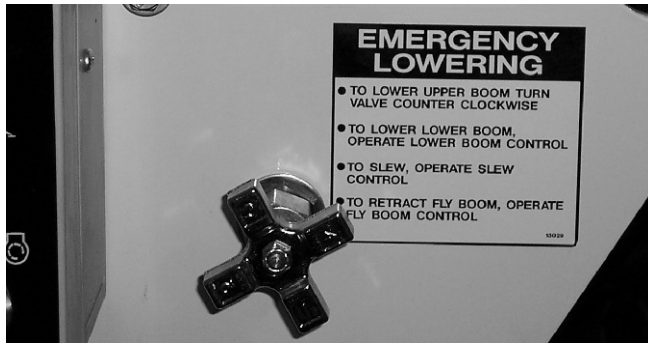

Figure 8.3 - Emergency Lower Valve
8. **Emergency Lower Control:** Allows the platform to be lowered in the event of an emergency (see Figure 8.3). See Chapter 11 "Emergency Operation" for details of emergency lowering procedures.